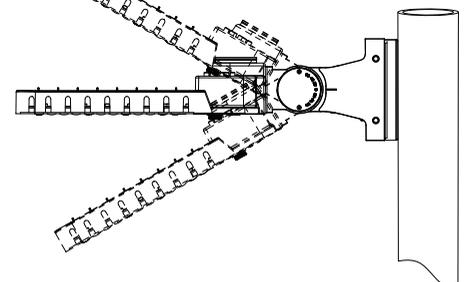

FIG. 6
4. To aim the fixture, loosen the M12x40 center knuckle bolt on the arm, adjust the aim 0 to 60° both upward and downward (see FIG. 6)